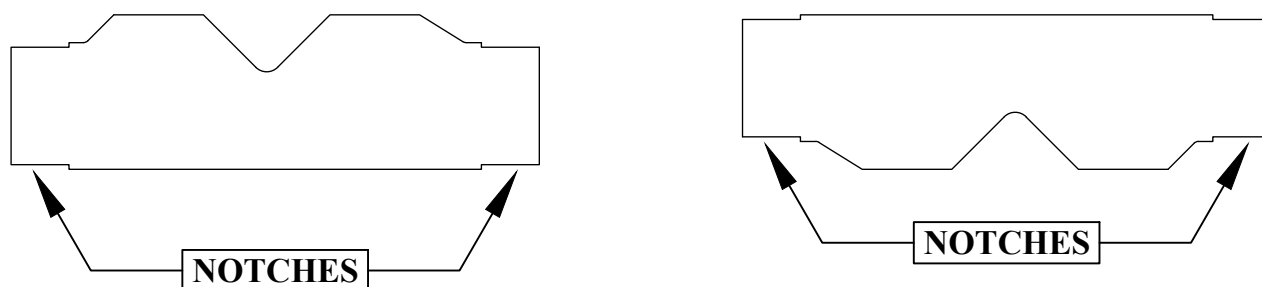

FIGURE 14
3. There is a notch machined in the ends of the blocks, both on the top and on the bottom, to help hold the V-Blocks in place on the press table. See FIGURE 14 below.